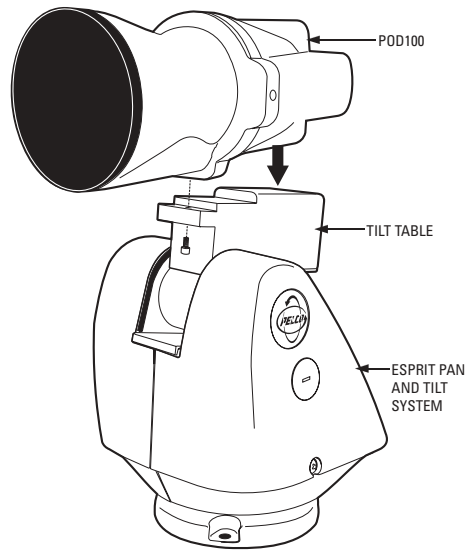

Figure 1. POD 100 Attachment to the Tilt Table
1. Refer to Figure 1 and attach the POD 100 to the tilt table of the Esprit with the 1/4-20 x .50-inch screw (supplied).